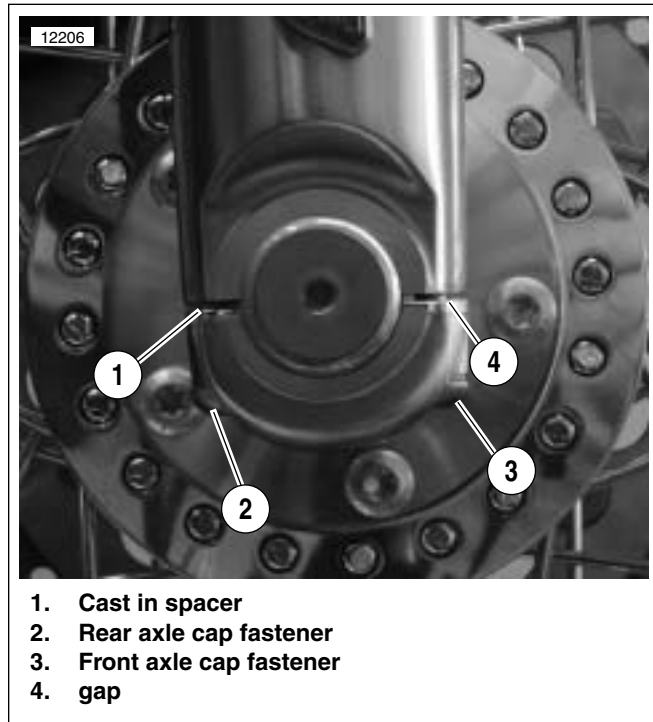

Figure 2-9. Axle cap
- d. See Figure 2-9. With cast in spacer (1) of axle cap facing rear of vehicle, tighten rear axle cap fastener (2) to 12 ft-lbs (16.3 Nm) while holding slider against 7/16 drill bit if necessary.